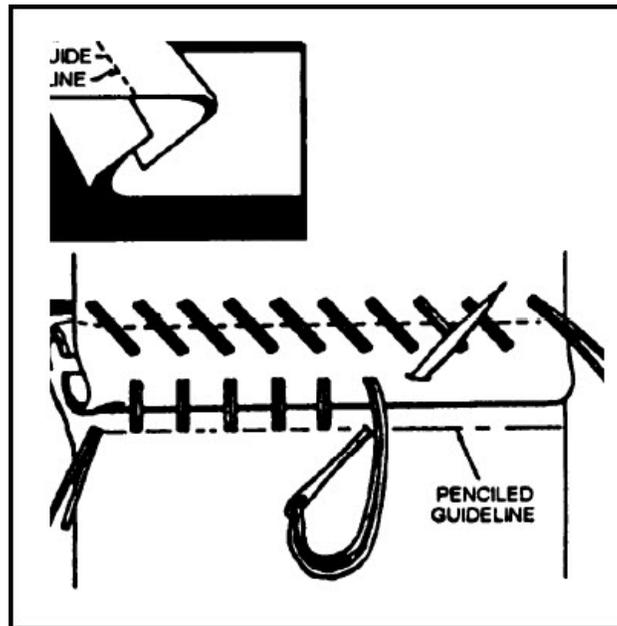

Figure 3-17 Flat stitch
- Flat stitch. A flat stitch is used when a strong seam is required, as on a paulin or a sail. Pencil a guideline 1 1/2 or 2 inches from the edge of each strip of canvas, depending on how wide you want the seam. Crease each piece on a line slightly less than halfway to the guideline. Make the folds away from the guidelines and interlock the folds (fig. 3-17). Interlocking the edges forms a watertight seam and keeps a ragged edge from showing.